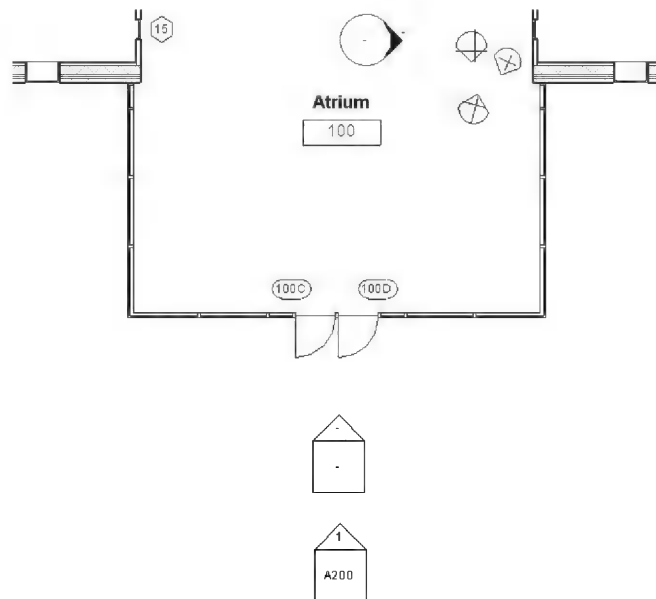

FIGURE 14-1.8 Level 1 – elev. Reference tag filled-in
23. Switch to **Level 1** (see Figure 14-1.8).
Notice in Figure 14-1.8 that the number A200 represents the sheet number that the drawing can be found on. The number one (1) is the drawing number to look for on sheet A200.